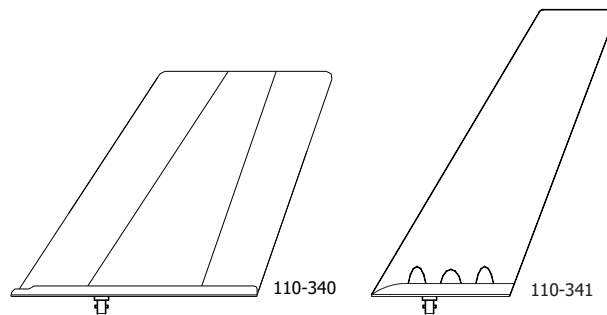

Figure 7. Blade Antennas
- (6) Two single-input blade antennas are approved for use with the C406-1 Series ELT. Selection of the proper antenna is dependent upon end use, aircraft configuration and speed, and other factors. See "Figure 7. Blade Antennas".